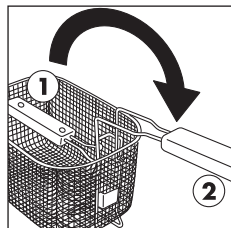
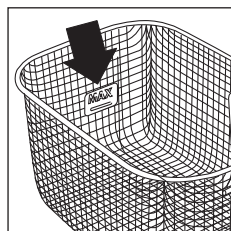

fig. 2
fig. 5
- Turn the folding handle of the basket until it locks into place (pos. 2, Fig. 2). Remove the basket by lifting it upwards.
- Place the food to be fried in the basket, without exceeding the maximum level indicated on the basket (fig. 5). Check that the handle of the basket is correctly positioned (pos. 2 in Fig. 2).